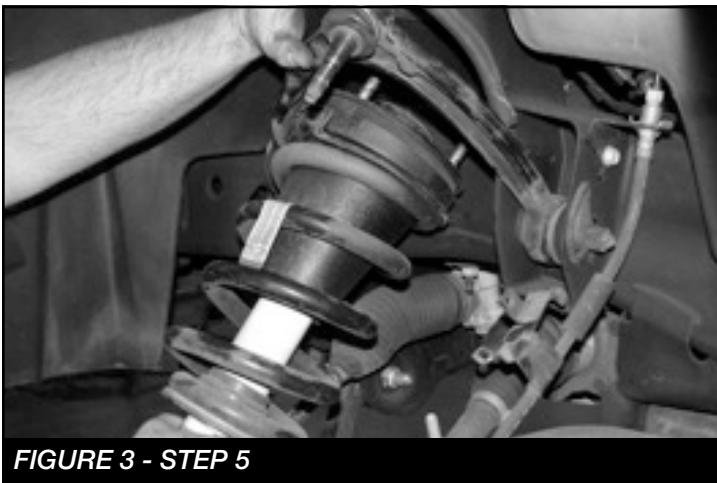

FIGURE 3 - STEP 5
5. Remove the factory coil over and save. **SEE FIGURE 3**